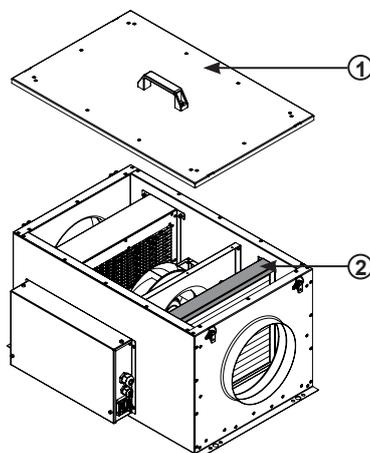

Fig. 13:
- Loosen the air filter flap (2). The filter (3) can then be easily removed (see Fig. 13+14).
- After changing the filter, close the filter flap (2) and the unit's cover (1) again.